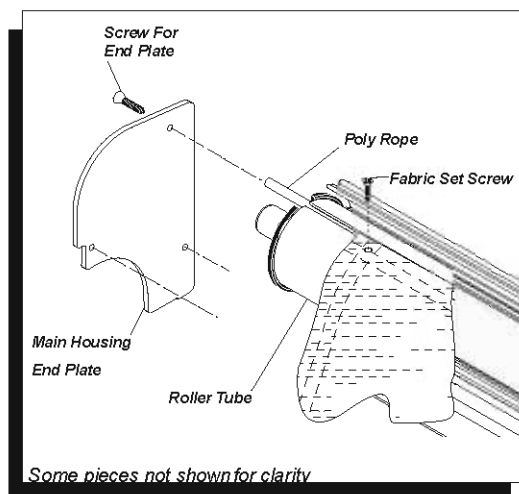

FIGURE 14
- 2) Remove the (4) four fabric set screws (two are located on the lead rail and two are located on the roller tube. see Figure 14 & 15)
- 5) Slowly begin to roll the fabric up, onto the roller tube, using the manual crank. (The motor limit switches will have to be used, and adjusted if no manual crank is available). Roll the fabric from the bottom of the roller tube. (See Figure 14)
- 2) Remove the (4) four fabric set screws (two are located on lead rail two are on the roller tube.)
- 3) Remove both lead rail end caps and awning end caps. (See Figure 14 and 15) Using two people, carefully slide the entire fabric out from the left end of the roller tube (make sure the Poly rope clears the support bracket for the roller tube) and from the end of the lead rail. Remove both Poly ropes from the forward and rear hems of the old fabric. This will be used on the new fabric installation.
- 4) Center the fabric on the roller tube, and square up fabric assembly at lead rail, i.e., remove wrinkles. The fabric will self-center on the lead rail. Insert self tapping screws on both ends of the fabric into roller tube (see Figure 14)